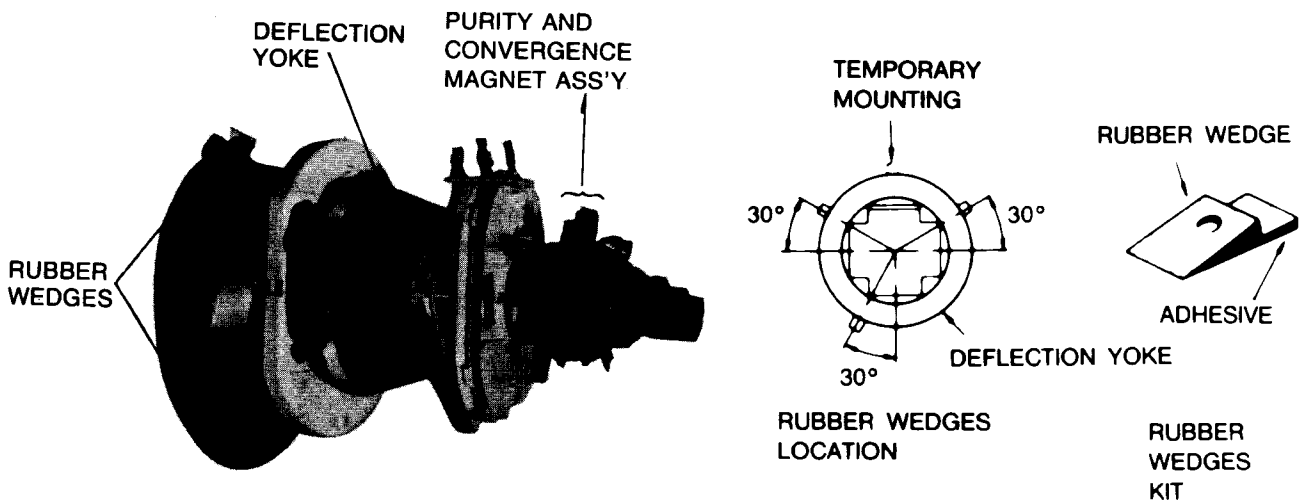

Figure 7
CAUTION: Convergence and Purity have been factory aligned. Do not attempt to tamper with these alignments. However, the effects of adjacent receiver components, or replacement of picture tube or deflection yoke may require the need to readjust purity and convergence. Convergence magnet assembly and rubber wedges need mechanical positioning following the figure 7. Before attempting any convergence adjustments this receiver should be operated for at least fifteen minutes. If adjustment is required the adjustments should be made in the following sequence.
2. Adjust DY to obtain a better convergence in the circumference by orbital movement of the front of the yoke, then secure the DY in appropriate position by placing the wedges as illustrates in figure 7. Tighten screw holding the DY. Stick 3 adhesive tapes on wedges as shown in figure 7.